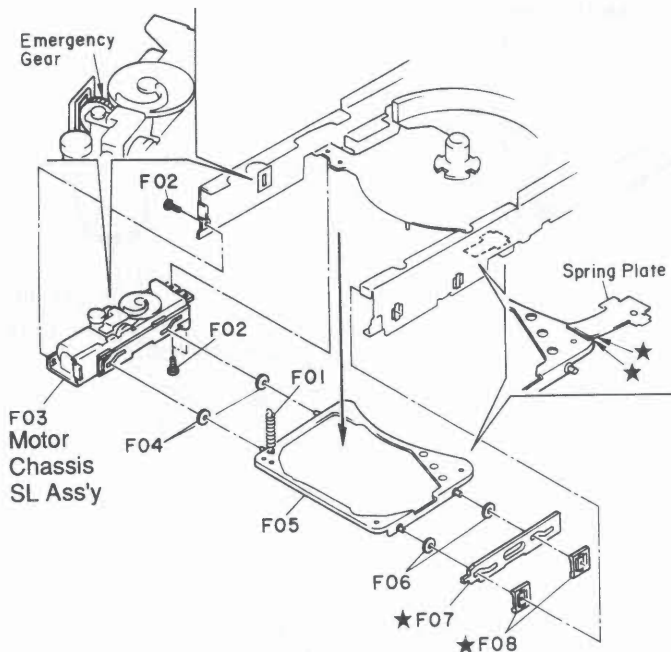
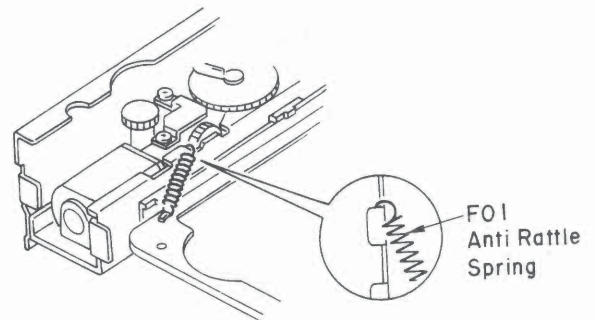

Fig. 2.12.1
Fig. 2.12.3
Refer to Fig. 2.12.1.
- (2) Reassemble F06 and F05.
**NOTE:** Be sure that the Spring Plate SL is put on F05 (SUS Base X Sub Ass'y) as shown in Fig. 2.12.1.
- (3) Reassemble F04 and F03.
- (4) Hook F01 (Anti Rattle Spring SL) on F03 (Motor Chassis SL Ass'y) as shown in Fig. 2.12.3.